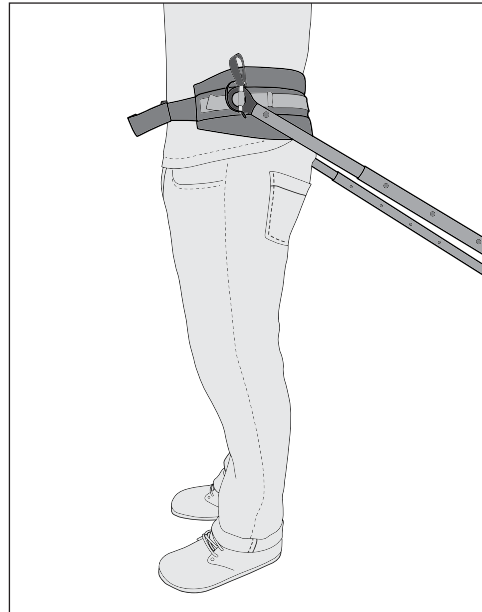
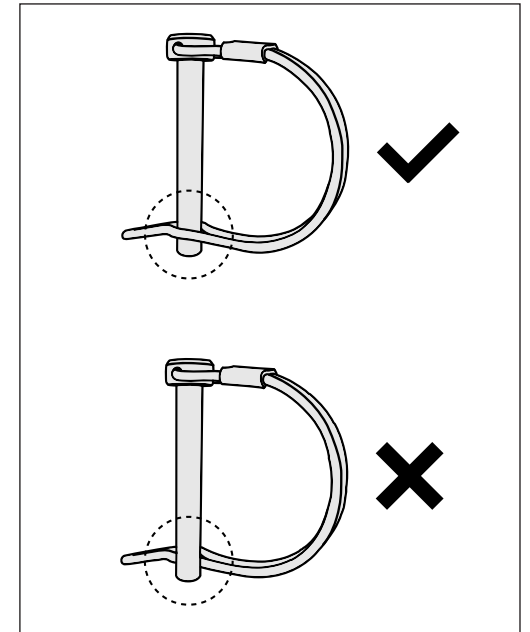

Figure 4
Figure 5
6. To attach towing pole to harness, unclip retaining pins on waist belt. There are three webbing loops on either side of the waist belt. Choose the webbing loop that centers plastic eyelet on hips (Figure 4). Pull desired webbing loop through the black plastic eyelet on towing pole. Slide retaining pin through webbing loop, resting on top of plastic eyelet, and close retaining pin to secure towing pole to harness (Figure 5). Repeat on opposite side.